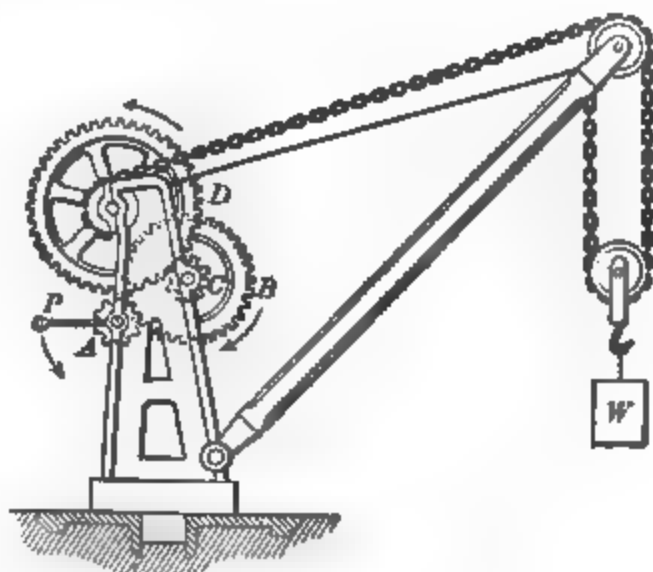

FIG. 37. — Builder's crane.
into its elements, let us, as it were, dissect a crane or derrick (Fig. 37) such as is used in unloading freight cars, or in hoisting building material into place.
11. In the crane shown in figure 37, the weight W is 5 tons, and the radii of the three small cogwheels are supposed to be equal and each $\frac{1}{2}$ the radius of the crank P and of the wheels B and D , which are also equal. What is the mechanical advantage of the whole machine, and what force, neglecting friction, must be applied at P ?